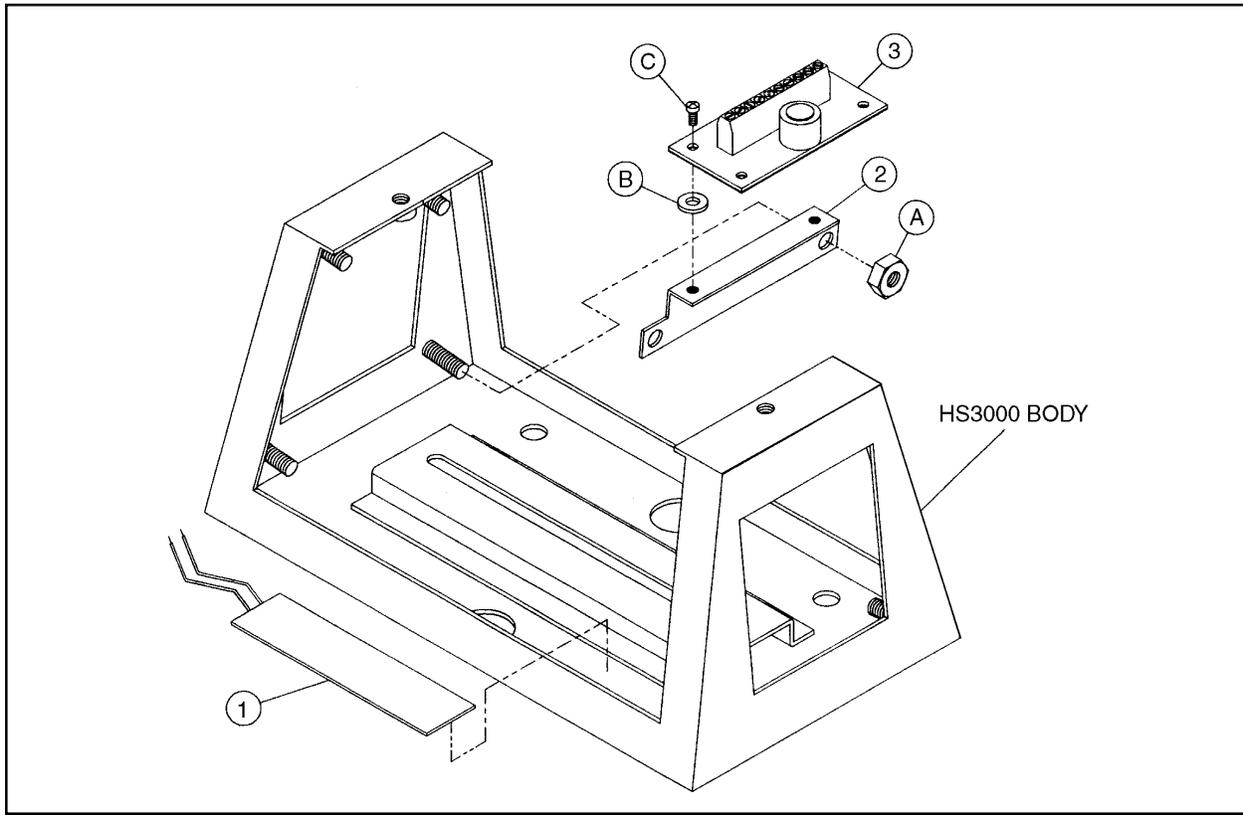

Figure 3. HKHS3000/HKHS3024 Exploded Assembly Diagram
3. Install the heater pads onto the front of the body (end nearest window) by removing the backing and pressing in place onto the floor of enclosure (see Figure 3).
The following parts list corresponds to the items identified in Figure 3 above.